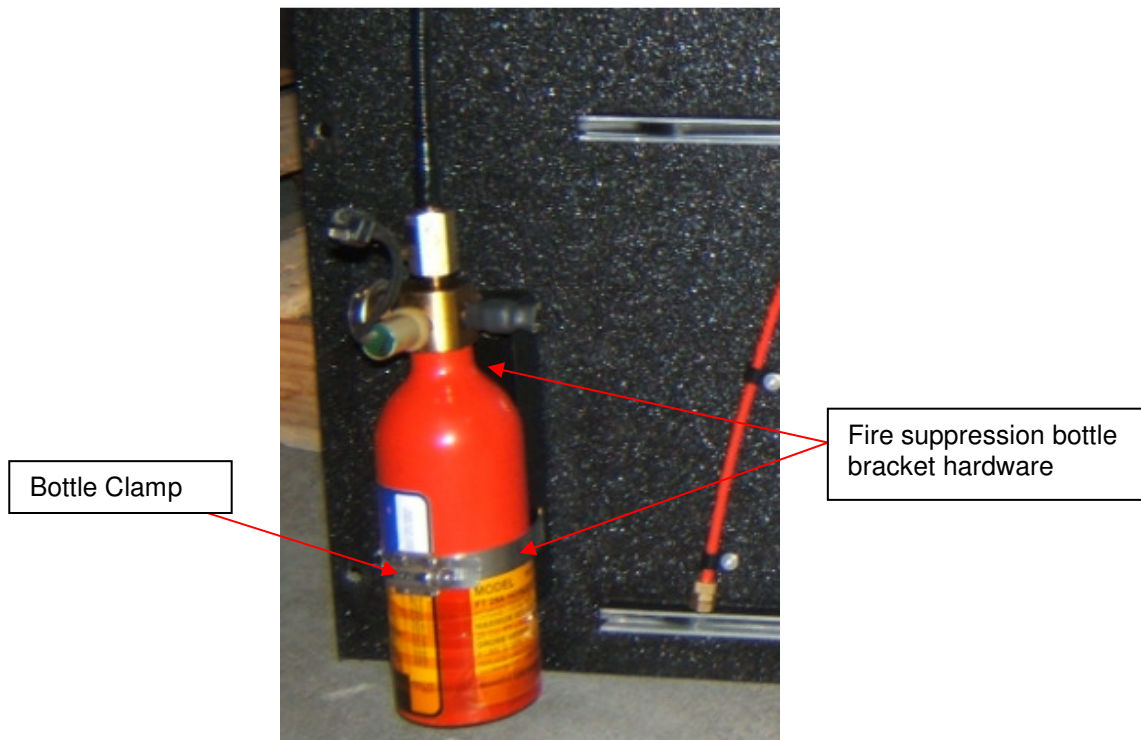

Fig 8 – Fire suppression bottle assembly
- i. On both lids loosen clamp for fire suppression bottle and slide out of bracket. Remove hardware securing fire suppression bottle bracket to the lid. Fig 8